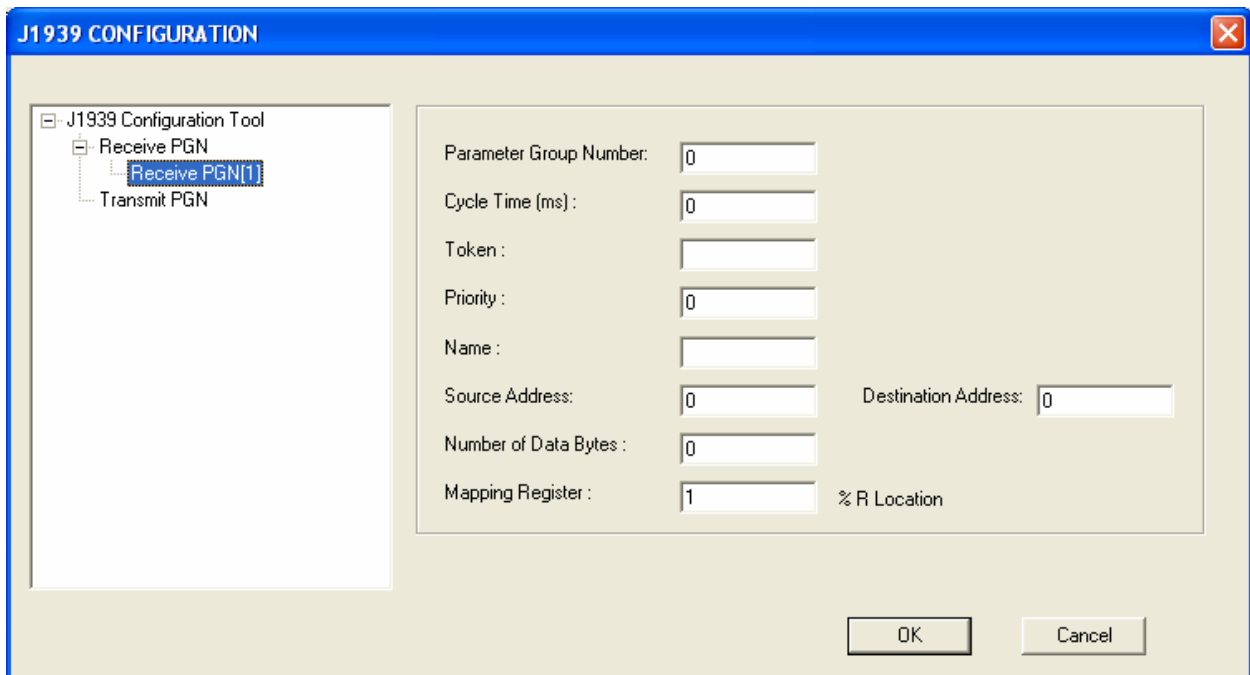

Figure 3.5 – Configuration of Receive PGN
Select Receive PGN (1) and configure the same. Refer Fig 3.5. For detailed description refer section 3.3